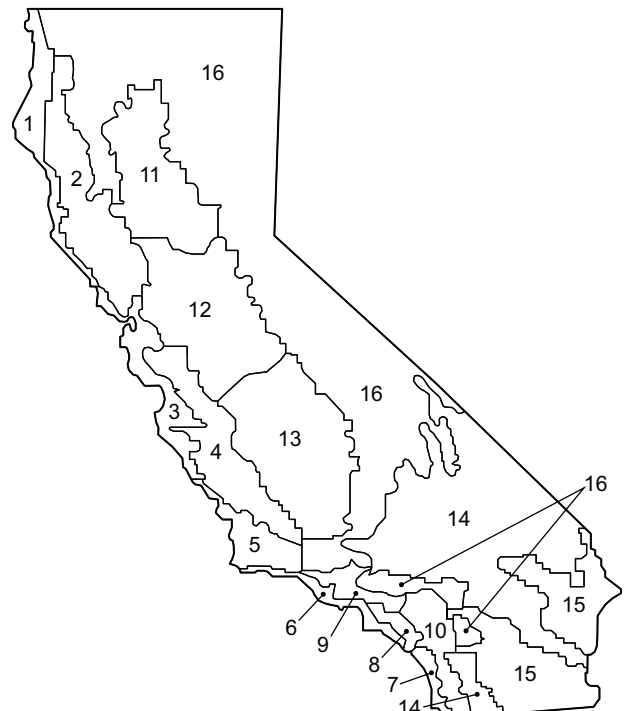

Fig. 67 – California Title 24 Zones
b. See Fig. 67 for map of California Title 24 zones.